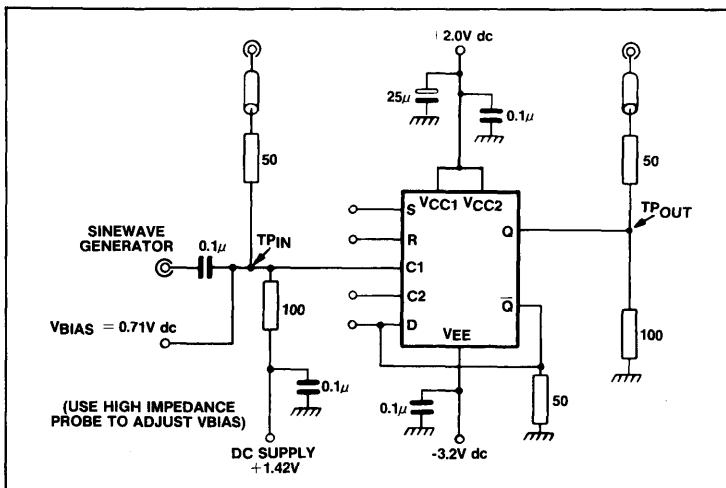
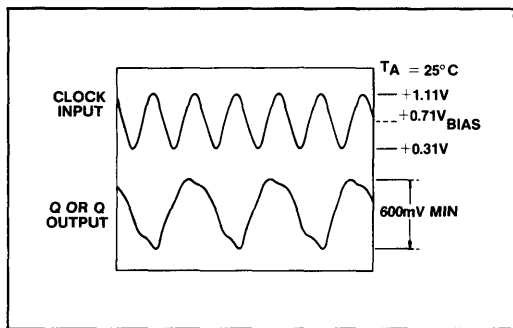

Fig.7 Toggle frequency test circuit
Fig.8 Toggle frequency waveforms
2. The device ceases to toggle (divide by two). V_{BIAS} is defined by the test circuit Fig.7 and by the waveform in Fig.8.